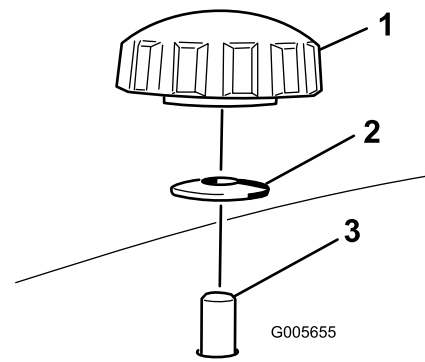

Figure 16
4. Remove the 2 knobs and curved washers that secure the right baffle to the mower (Figure 16).
5. Remove the right baffle and lower the grass deflector over the discharge opening as shown in Figure 16 and Figure 17.
5. Slide the right baffle under the mower deck, and secure it using 2 knobs and the curved washers (cupped side facing the mower) as shown in Figure 16 and Figure 17.